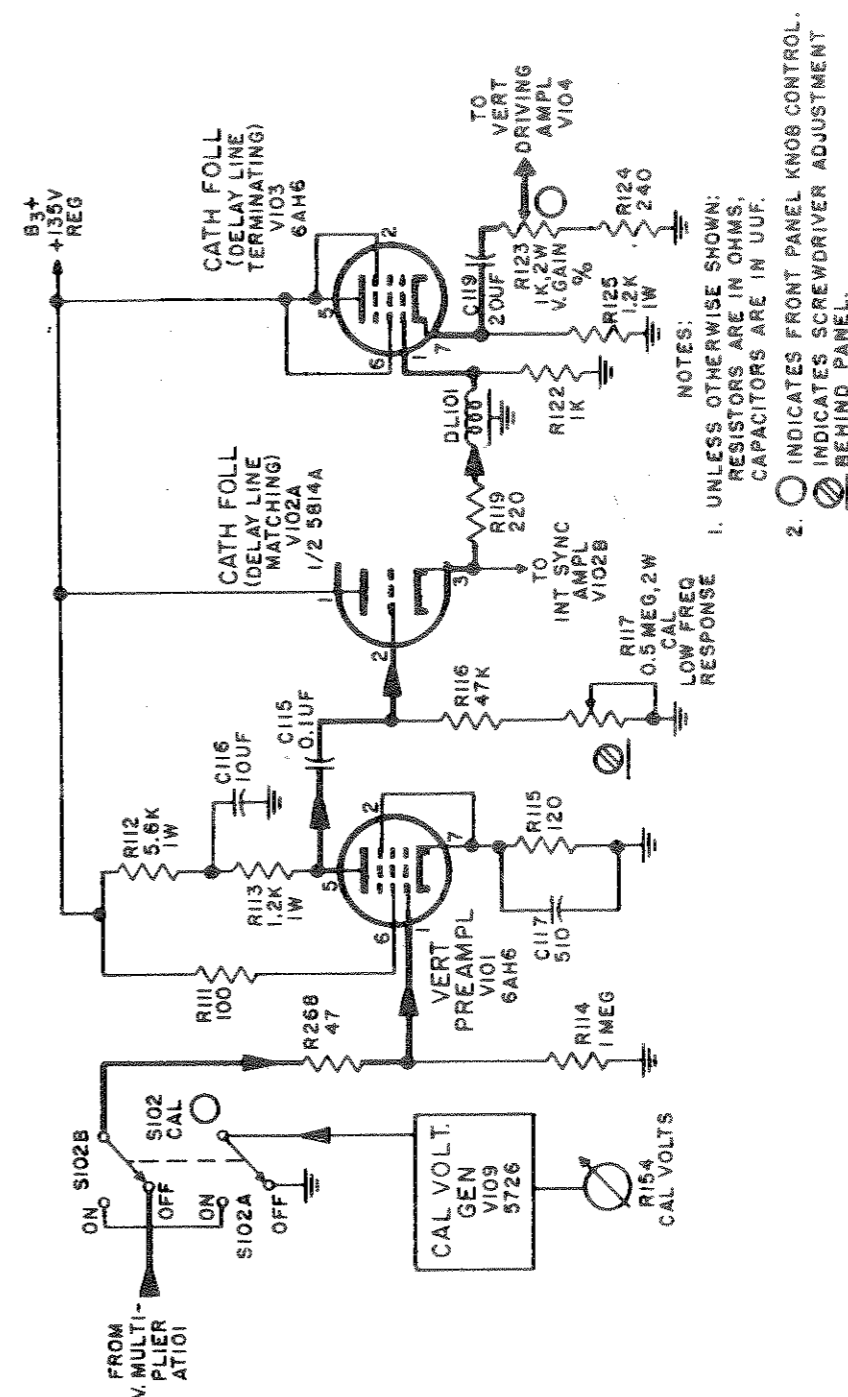

Figure 2-4. Vertical Preamplifier and Delay Circuit, Simplified Schematic Diagram.
(2) VERTICAL PREAMPLIFIER AND DELAY CIRCUIT (See figure 2-4) – This circuit consists of (1) a resistance coupled pentode video amplifier, (2) a triode cathode follower V102A coupled to a delay line DL101, and (3) a triode connected pentode cathode follower V103 terminating the delay line. The gain through the Vertical Preamplifier V101 is approximately 4.5, and the gain through the cathode follower V102A, Delay Line DL101, cathode follower V103 combination is 0.42; therefore, the overall gain for this circuit is 1.9 as far as input signal to the Vertical Driving Amplifier V104 is concerned. Part of the vertical output of Cathode Follower V102A is coupled to the sweep synchronizing circuits via Internal Sync Amplifier V102B. In the following discussion the